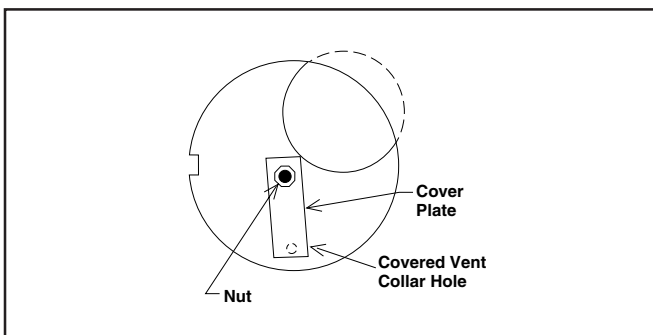

Figure 13. Vent Collar Detail
- Remove the nut and restrictor plate from the vent collar assembly and discard the restrictor plate. Select the appropriate dilution cover plate as noted with vent kit #903196. Fit the clearance hole in the cover plate over the weld stud. The cover plate must cover the hole(s) on the vent collar assembly. Tighten the nut securely while holding the cover plate in position. (See Figure 13.)